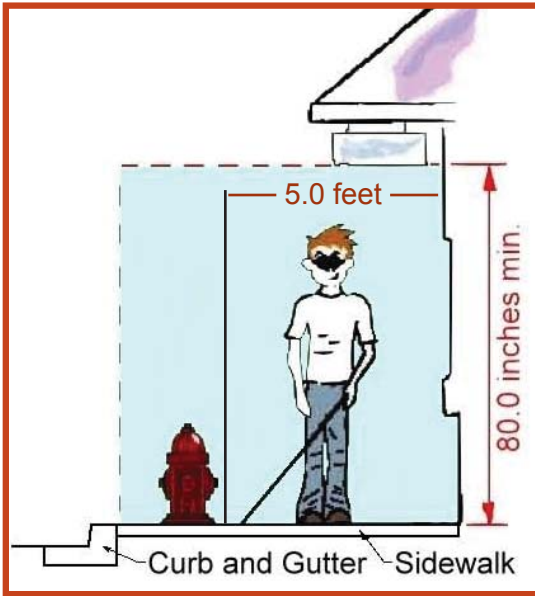

Figure 4 Pedestrian Path Width
- Maintain a width of 60 inches throughout the pedestrian pathway. (See Figure 4 below.)